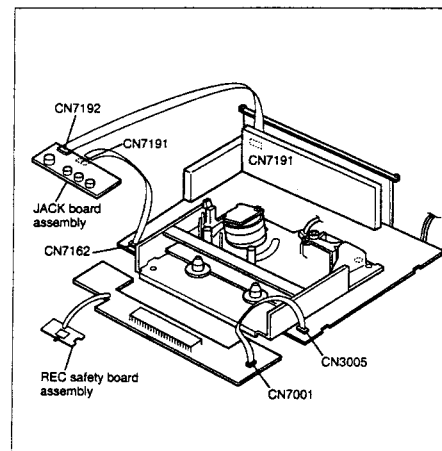

Fig. 1-4-3
- (6) Remove the Display board assembly and REC safety board (See 1.3 DISASSEMBLY/ASSEMBLY METHOD), then place them on the front side of the Main deck assembly and Main board assembly which have been deassembled at the procedure (6) and place the Jack board on the left side of the Main deck assembly and Main board assembly. Then connect the flat wires into CN7001 of the Display board assembly, CN7191 and CN7192 of the JACK board assembly (See Fig. 1-4-3).
1.4.3 Cassette loading and ejection methods in the "SERVICE POSITION" (See Fig. 1-4-3).
- (1) Insert a cassette halfway in the Cassette holder assembly.
- (2) Set the switch on the REC safety board assembly to ON (by pressing the switch).
- (3) As soon as the cassette starts to be loaded, set the switch on the REC safety assembly to OFF (by releasing the switch).
- (4) Now the desired operation (recording, playback, fast forward, rewind, etc.) is possible in this status (the status shown in Fig. 1-4-3).
- When performing diagnostics of the tape playback or recording condition in the "SERVICE POSITION", enter the desired mode before turning the set upside down, and do not change the mode during diagnostics while the set is placed upside down. If you want to switch the mode, turn the set to the normal position (the status shown in Fig. 1-4-3).
- (5) The switch on the REC safety board assembly does not have to be operated when ejecting a tape. But be sure to turn the set to the normal position before ejecting the tape.